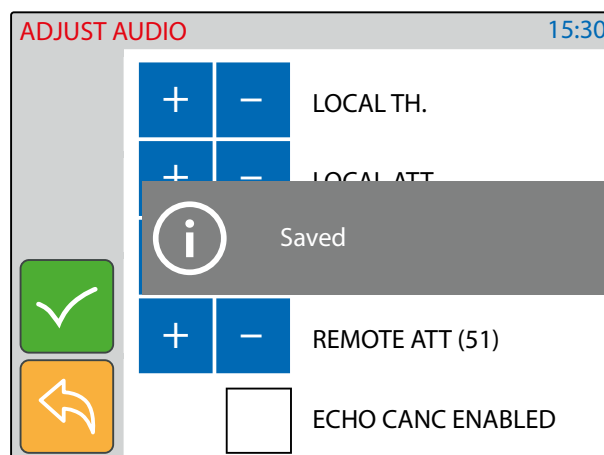

Fig. 18 Save the speech adjustment
- Once a good speech level is obtained tap on the tick button to confirm (Fig. 18).
- A notice will inform that the adjustment is saved (Fig. 18).